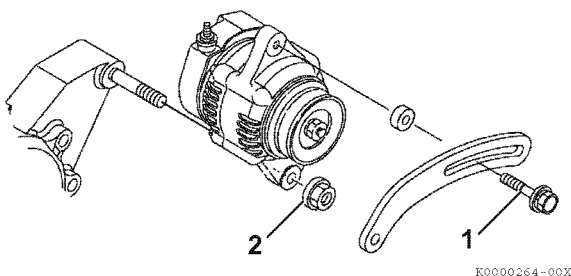

Figure 11-19
1. Position the alternator on the gear case. Loosely install the nut (**Figure 11-19, (2)**) on the gear case stud and the V-belt adjuster bolt (**Figure 11-19, (1)**).